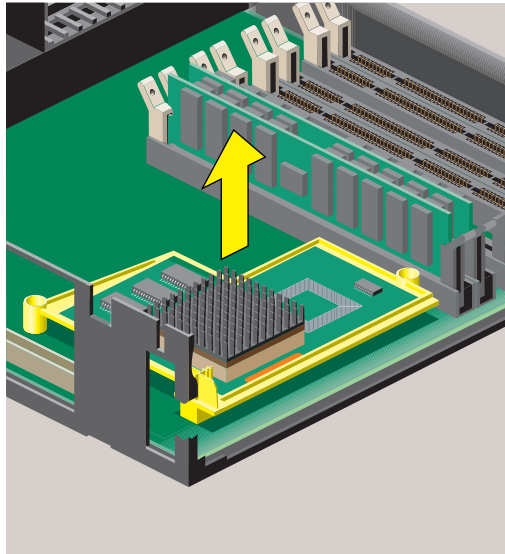

Figure 5-5 Removing the R5000 CPU Module
6. Grasp the CPU module on both sides and gently rock it out (Figure 5-5). Do not exaggerate the rocking motion, or you will bend the pins.